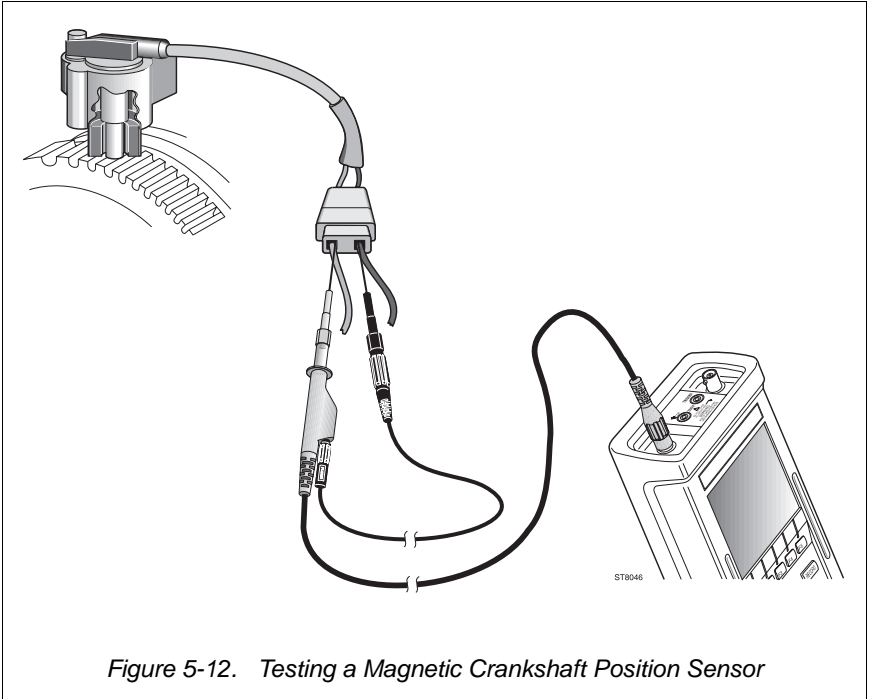

Figure 5-12. Testing a Magnetic Crankshaft Position Sensor
③ Connect the test leads as displayed by the test tool's Connection Help and shown in Figure 5-12.
④  Starts the Crankshaft Position Sensor test.